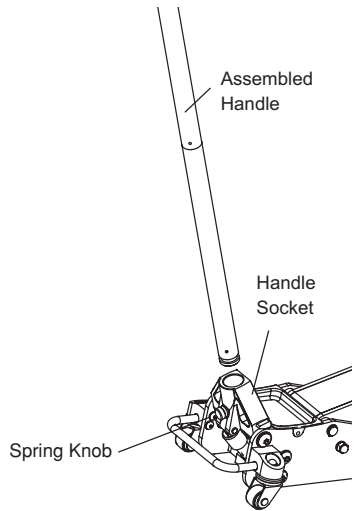

FIG. 2
1. Pull out and hold the Spring Knob (see Fig. 2).